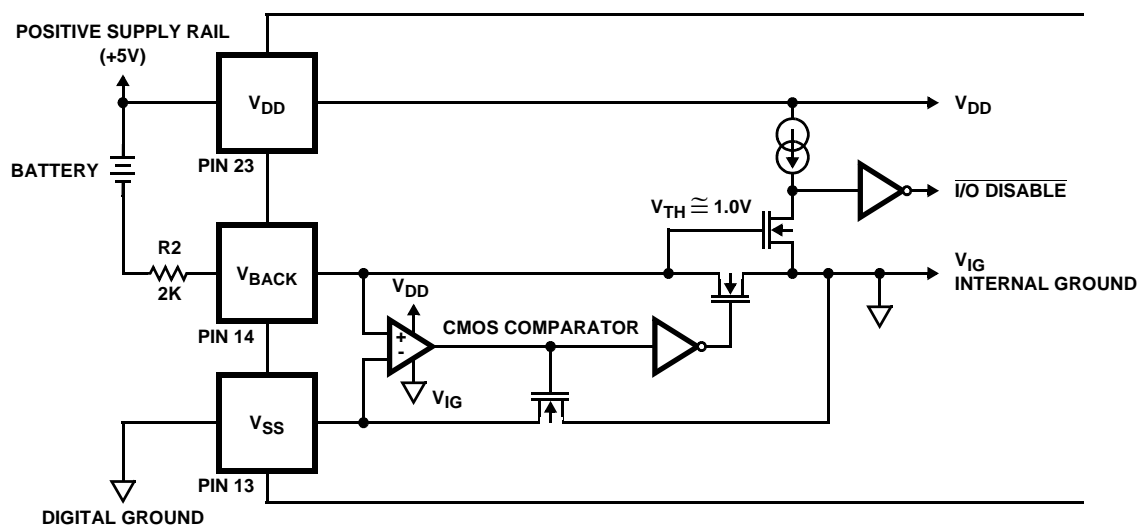

FIGURE 6. SIMPLIFIED ICM7170 BATTERY BACKUP CIRCUIT
The ICM7170 contains an on-chip power down detector that eliminates the need for external components to support the battery-backup switchover function, as shown in Figure 6. Whenever the voltage from the  $V_{SS}$  pin to the  $V_{BACKUP}$  pin is less than approximately 1.0V (the  $V_{TH}$  of the N-channel MOSFET), the data bus I/O buffers in the ICM7170 are automatically disabled and the chip cannot be read or written to. This prevents random data from the microprocessor being written to the clock registers as the power supply is going down.
The new load configuration (Figure 6) allows these two conditions to be met independently. The two load capacitors, C1 and C2, provide a fixed load to the oscillator and crystal. C3 adjusts the frequency that the circuit resonates at by reducing the effective value of the crystal's motional capacitance, C0. This minute adjustment does not appreciably change the load of the overall system, therefore, stability is no longer affected by tuning. Typical values for these capacitors are shown in Table 5. C1 and C2 must always be greater than twice the crystal's recommended load capacitance in order for C3 to be able to trim the frequency. Some experimentation may be necessary to determine the ideal values of C1 and C2 for a particular crystal.
4. **EXTERNAL BATTERY BACKUP** - The ICM7170 may be placed on the same power supply as battery-backed up RAM by keeping the ICM7170 in its operational state and having an external circuit switch between system and backup power for the ICM7170 and the RAM. In this case  $V_{BACKUP}$  should be pulled up to  $V_{DD}$  through a 2K resistor. Although the ICM7170 is always "on" in this configuration, its current consumption will typically be less than a microamp greater than that of standby operation at the same supply voltage (See Note 9). Proper consideration must be given to disabling the ICM7170s and the RAMs I/O before system power is removed. This is important because many microprocessors can generate spurious write signals when their supply falls below their specified operating voltage limits. NANDing  $\overline{CS}$  (or  $\overline{WR}$ ) with a POWERGOOD signal will create a  $\overline{CS}$  (or  $\overline{WR}$ ) that is only valid when system power is within specifications. The POWERGOOD signal should be generated by an accurate supply monitor such as the ICL7665 under/over voltage detector. An alternate method of disabling the ICM7170's I/O is to pull  $V_{BACKUP}$  down to under a volt above  $V_{SS}$  ( $V_{SS} < V_{BACKUP} < 1.0V$ ). This will cause the ICM7170 to internally disable all I/O. Do not allow  $V_{BACKUP}$  to equal  $V_{SS}$ , since this could cause oscillation of the battery backup comparator (See Figure 6).  $V_{BACKUP} = V_{SS} + 0.5V$  will disable the I/O and provide enough overdrive for the comparator.